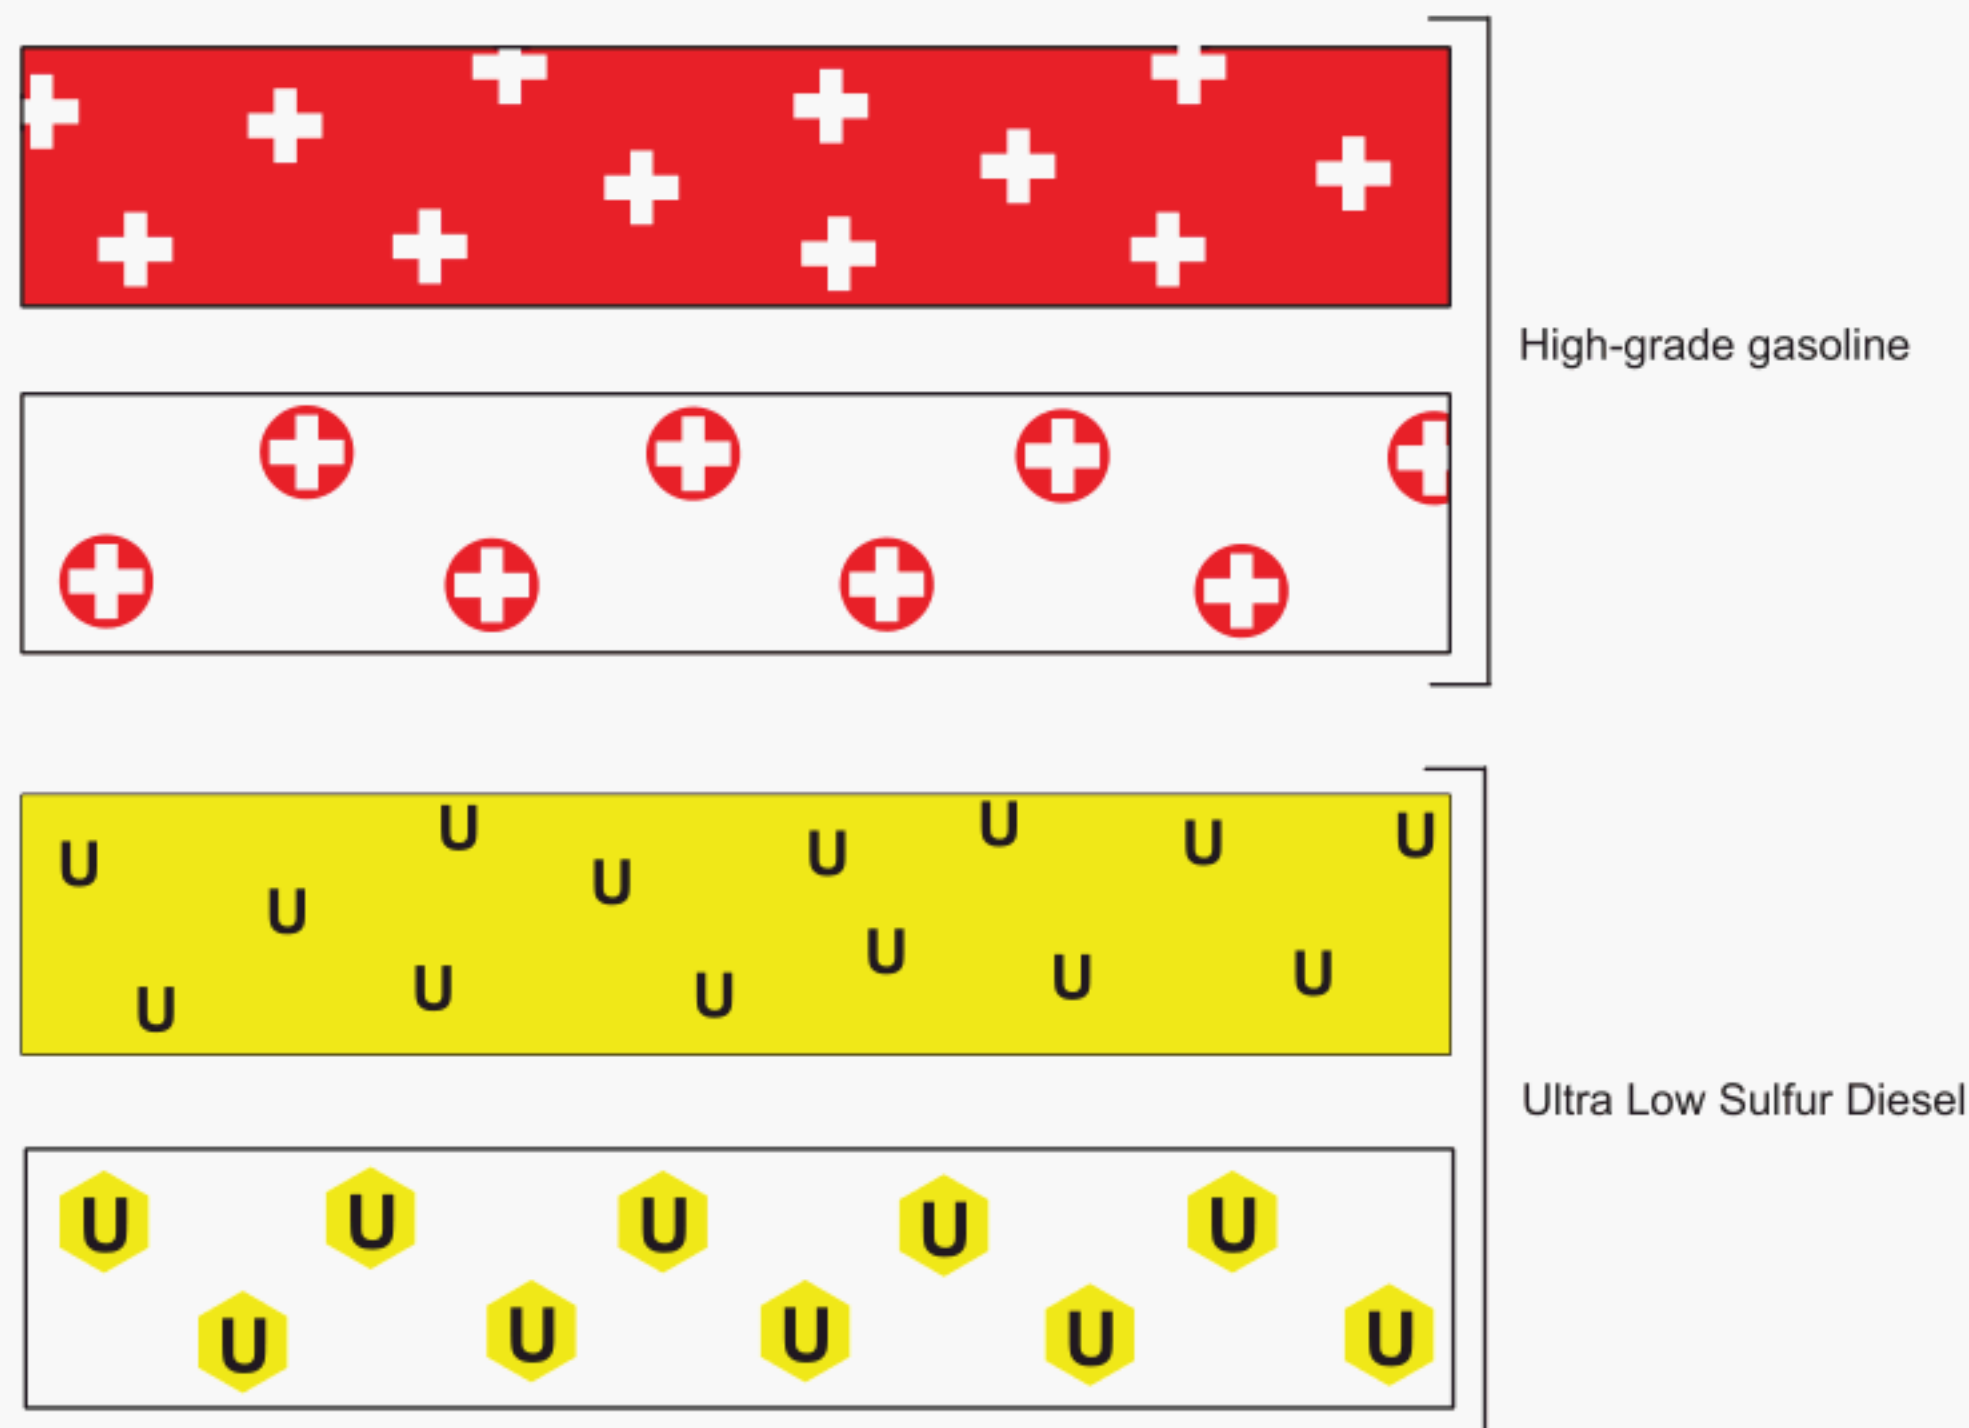

Figure 2—Examples of Identification for Fillbox Inserts at Service Stations
3.2.1 Fillboxes and fillbox covers shall be clearly identified (see Figure 2). When fillboxes and fillbox covers are identified by means of the marking system, at least one fixed component of the fillbox itself shall be labeled to avoid commingling accidents that might result from mismatching of fillboxes and their covers. The following labeling methods are recommended: